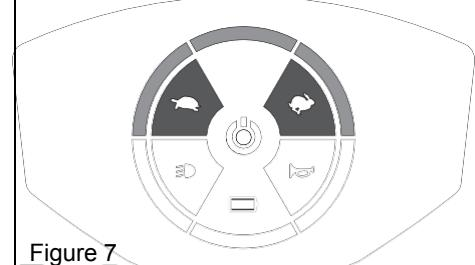

Figure 7
- There are 3 different speeds of adjustment fastest 3>2>1 slowest. (Figure 7)